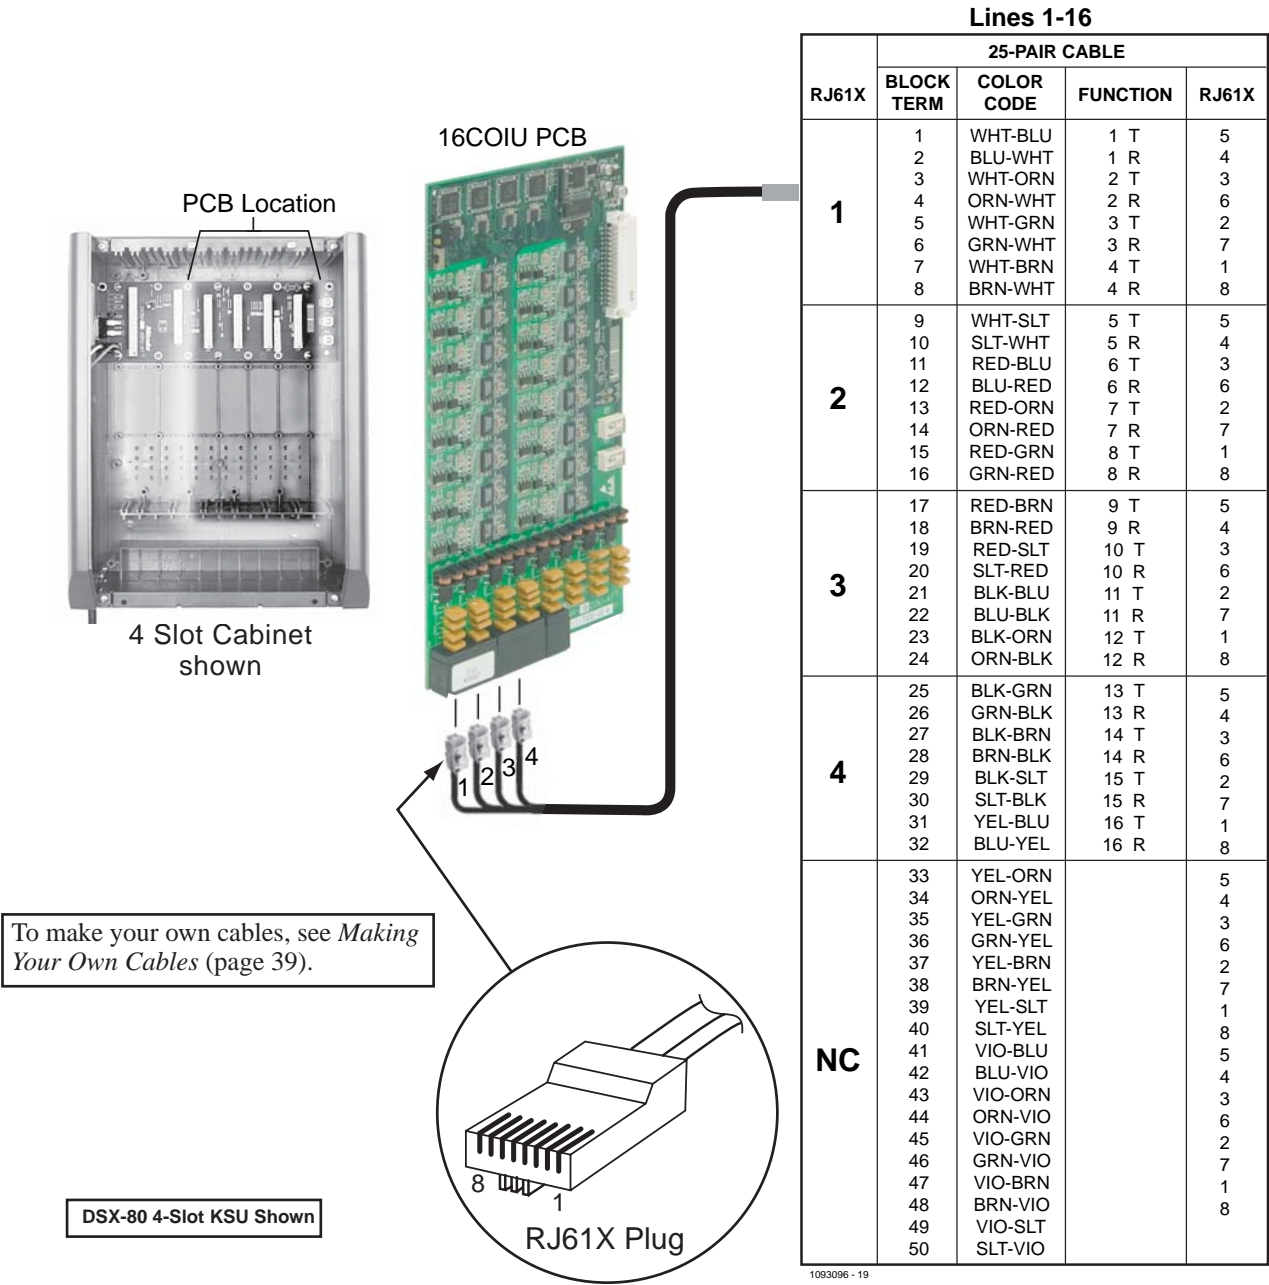

Figure 18: Connecting 16COIU and 8COIU Cards
1. Using *Figure 18: Connecting 16COIU and 8COIU Cards* (page 36) as a guide, plug the installation cable mod jacks into the appropriate connectors on the COIU Cards.